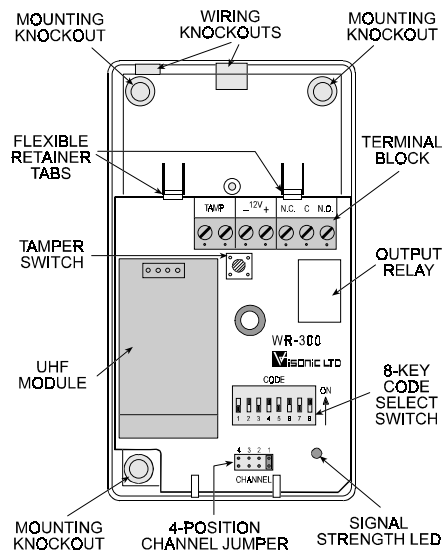

Figure 1. WR-300, Inside View
- Punch out the two diagonally opposed mounting knockouts, and one of the wiring knockouts (see Figures 1, 3, 5).
- Position the receiver as shown in figure 1, 3 or 5, depending on the model, and let the short antenna wire dangle down. Use the base as a template to mark the mounting screw locations on the mounting surface.